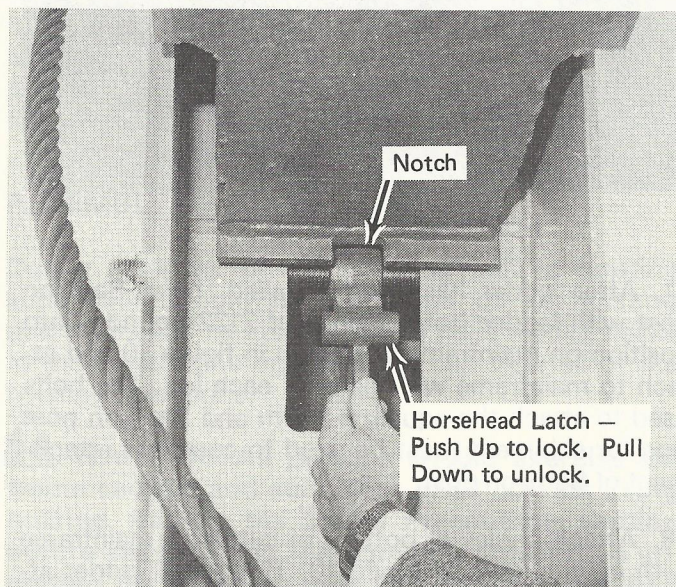

Figure 11. Locking Horsehead into Position
11. Hoist walking beam slowly and latch horsehead into notch in flange of walking beam. See figure 11. Then hoist into position over saddle bearing pivot on top of Samson post. Align holes in walking beam with slots in pivot casting and install bolts shown in figure 12. Do not make final tightening of these four bolts at this time. Position walking beam as necessary to connect lower end of pitmans to crankarms. Rotate wrist pin bearing housing to place grease vent on top, then place pitman over bearing housing and tighten nuts. See figure 13 for positioning bolt head.